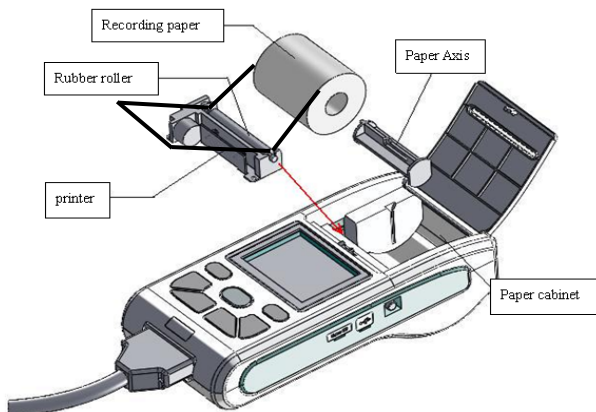

Figure 6-1 Installation of recording paper
1. As shown in Figure 6-1, press the paper compartment cover, it is automatically bounced, take out the paper axis, insert it into the recording paper as shown in the figure. The paper side with grids should be faced downwards, and then install it to proper position in the paper compartment, and press the rubber roller on the recording paper.